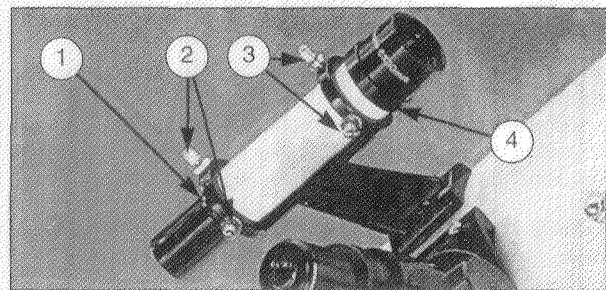

Fig. 4: 6 x 30mm Viewfinder. (1) Mounting Bracket; (2) Rear-most Alignment Screws; (3) Front-most Alignment Screws; (4) Viewfinder Focus Lock Ring.
1. Remove the viewfinder from its mounting bracket (1 Fig. 4) by slightly unthreading the six alignment screws until the viewfinder can slip out easily.
2. Loosen the viewfinder focus lock ring (4, Fig. 4) at the objective-lens-end of the viewfinder, enabling rotation of the objective lens cell clockwise or counterclockwise for precise focusing while looking at a distant object through the viewfinder.
1. The viewfinder bracket (1, Fig. 4) includes six alignment screws. Turn the three rear-most alignment screws (2, Fig. 4) so that the viewfinder tube is roughly centered within the viewfinder bracket, as viewed from the eyepiece-end of the telescope.
3. While looking through the viewfinder, gently turn one or more of the three front-most viewfinder alignment screws (3, Fig. 4) until the crosshairs of the viewfinder point at precisely the same position as the main telescope. During this procedure, occasionally look through the main telescope to make sure the object is still centered.